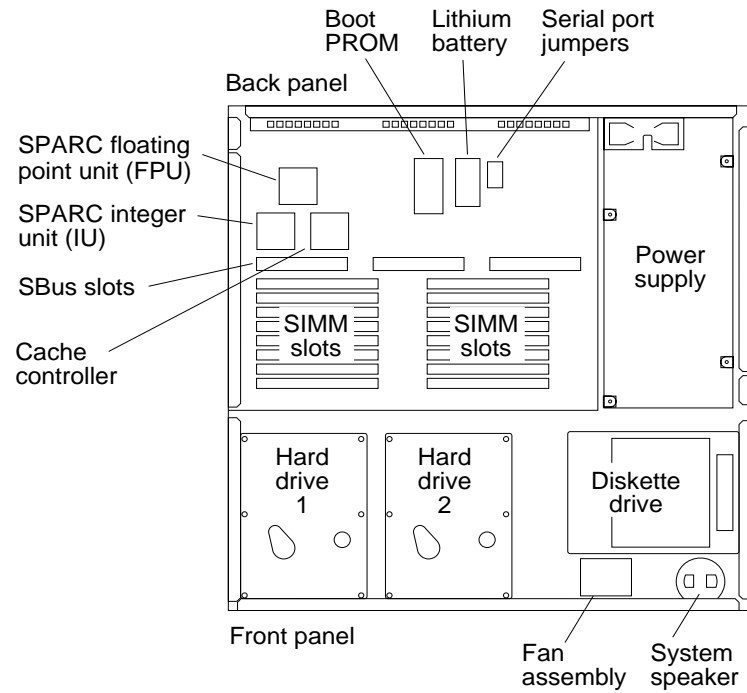

Figure 4-20 Top View of System Unit's Internal Parts
The main logic board contains the CPU, the floating point coprocessor, the boot PROM, the NVRAM, SIMMs, SBus boards, two RS-423/232 ports, an Ethernet port, a SCSI port, and connectors for audio input/output, and keyboard/mouse as well as many other ICs (see Figures 4-20 and 4-21). See Chapter 1 for an overview of the main logic board.
There are two serial port jumpers on the main logic board (see Figures 4-20 and 4-21). The jumpers are preset from the factory in RS-423 mode. The ports can be set either as RS-232 mode (for users in the Federal Republic of Germany) or as RS-423 mode for the rest of the users. See *SPARCstation 2 Installation Guide* for more information on serial port mode jumpers.
- 5. Locate the jumper blocks on the main logic board near the lithium battery.** See Figures 4-20, 4-21, 4-22 and 4-23.